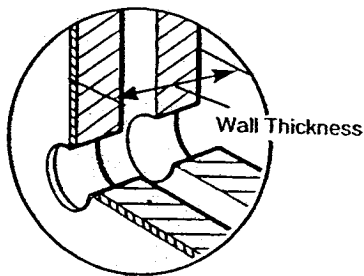

Fig. 22
1. Measure the wall thickness (Fig. 22) and to this dimension add 60mm (2 $\frac{3}{8}$  in).